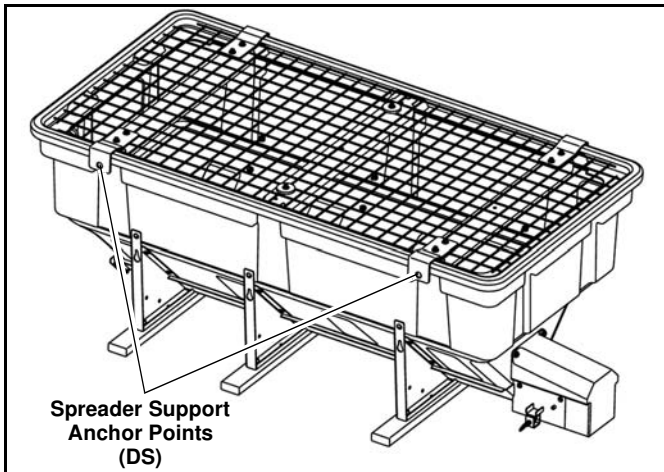

Figure 1-4
5. Using suitable tie-down straps or chains (See "ACCESSORIES" on page 36), secure the spreader to the vehicles factory installed anchor points using two tie-down brackets on each side of the spreader hopper. (See Figure 1-4)